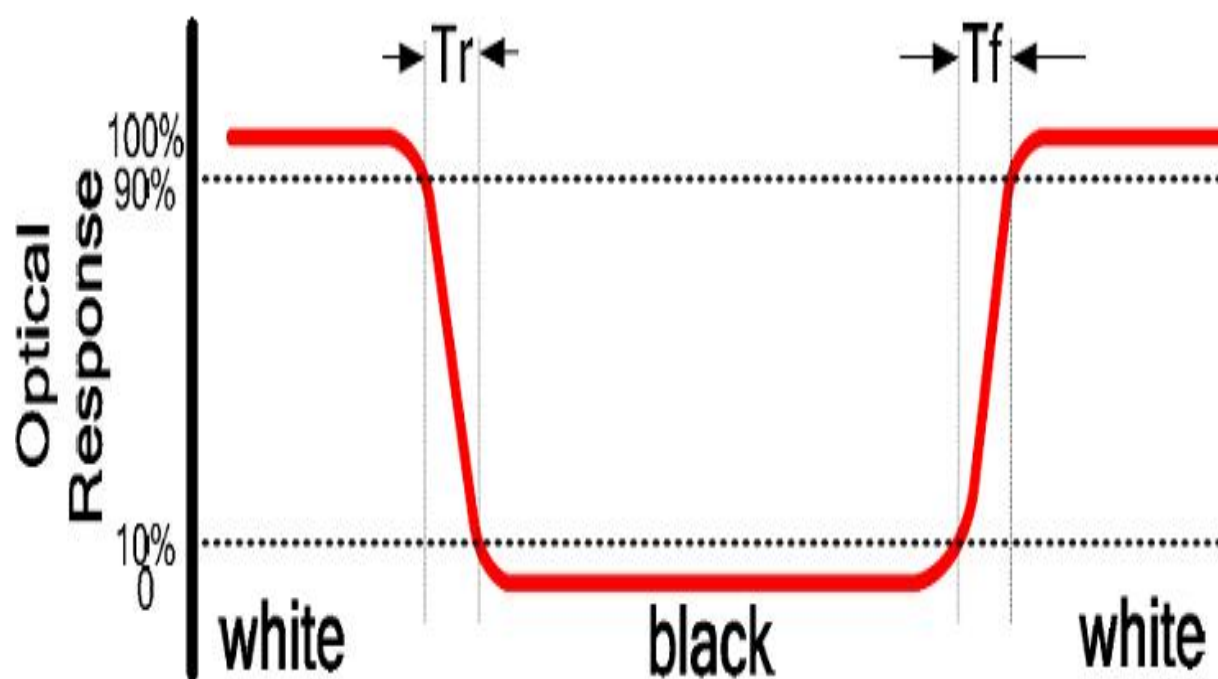

FIG2. Measuring method for Contrast ratio,surface luminance,Luminance
Note2.contrast Ratio(CR) is defined mathematically by the following formula ,For more information see FIG2.
value of contrast ratio is 2. The angles are determined for the horizontal or x axis and the vertical or y axis with respect to the z axis which is normal to the LCD surface. For more information see FIG3 Note5. Surface luminance is the LCD surface luminance with all white pixels, For more information see FIG2.